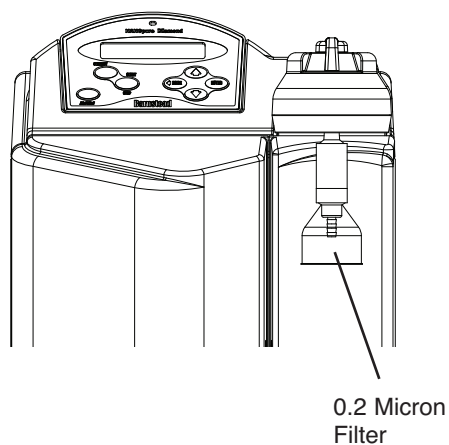

Figure 7-3. Installing 0.2 Micron Filter
17. Remove the new 0.2 micron filter and bell assembly (Figure 7-3) from the bag and insert it into the dispenser arm manifold. Gently turn it clockwise until it is fully seated.